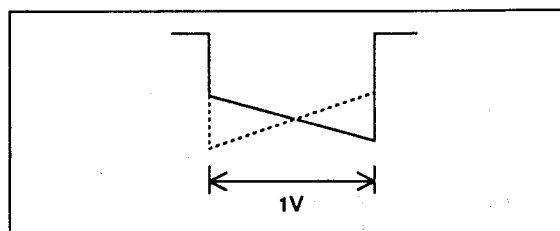

Fig. 48
6. Adjust R3519 (V. Luminance shading correction) to achieve waveform as shown in Fig. 48.